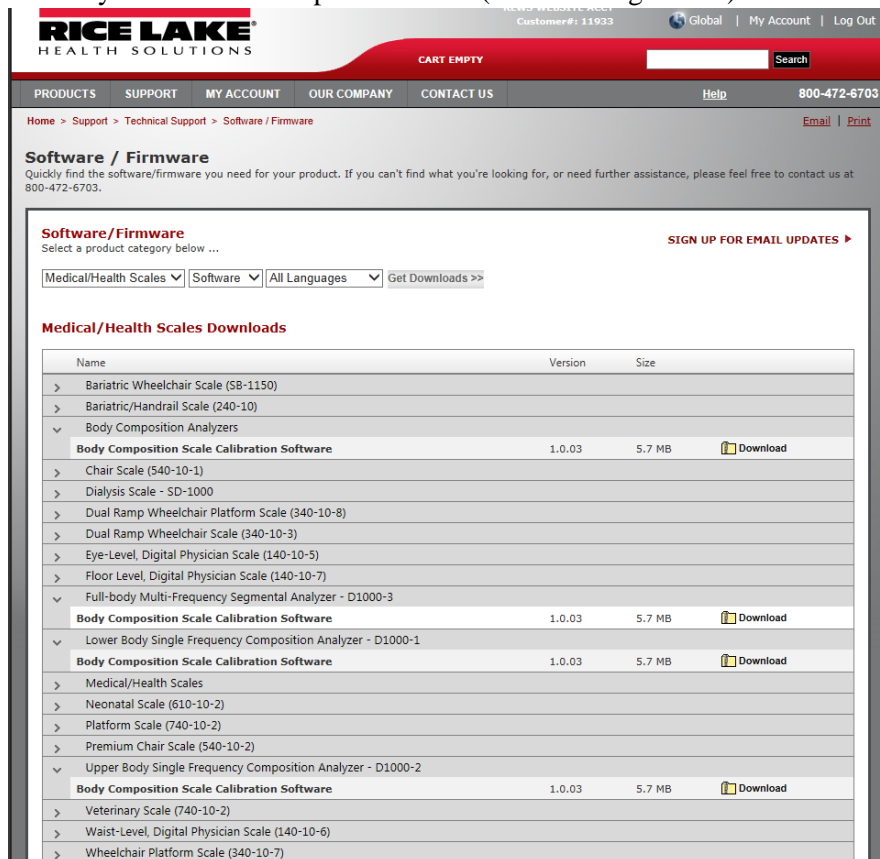

Figure 7-2. Calibration Software Download Locations
2. The software download can be accessed depending on the Analyzer model purchased or by selecting Body Composition Analyzers from the drop down menu (shown in Figure 7-2).